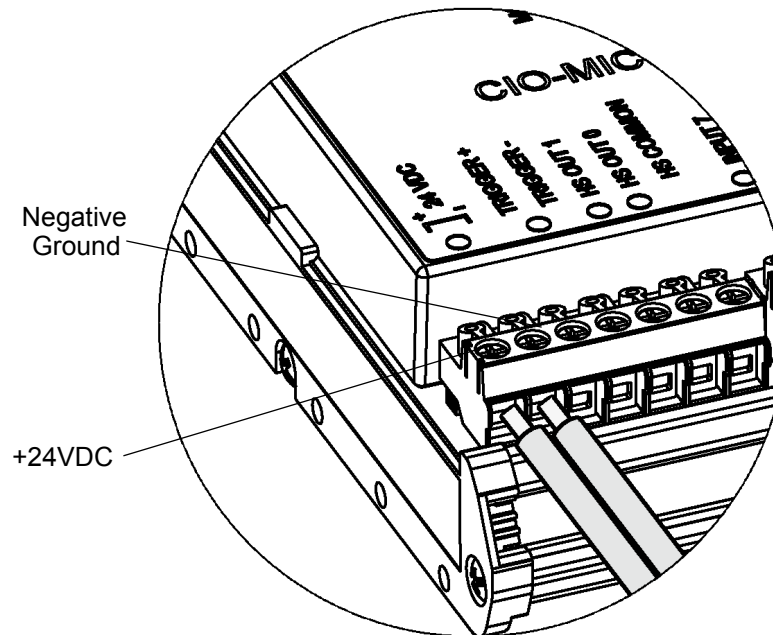

Figure 2-2: Connecting Power and I/O Wires
3. Insert the +24VDC and negative ground (-24VDC) from the power supply into the 24VDC + and – terminal block positions, as shown in Figure 2-2. With the CIO-MICRO-CC, connect the Shield Ground to a common ground.
5. Insert the the signal and common wire leads from remote I/O devices into the appropriate positions on the terminal block, as shown in Figure 2-2. With the CIO-MICRO-CC, connect the Shield Ground to a common ground.